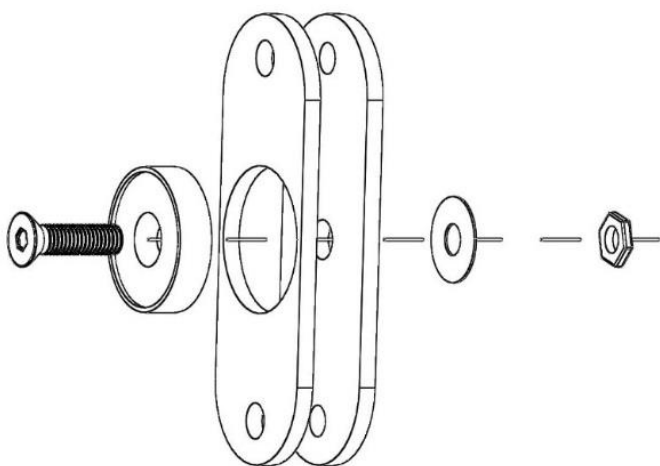

Fig. 3
3. Fasten the magnetic holders with magnetic washers (PM) as in fig. 3 using 4 screws M4 (ŚM4).